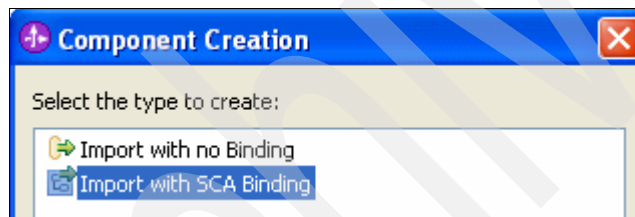

Figure 3-242 Component Creation prompt
3. At the Component Creation panel, select Import with SCA Binding, then click **OK**. See Figure 3-242.